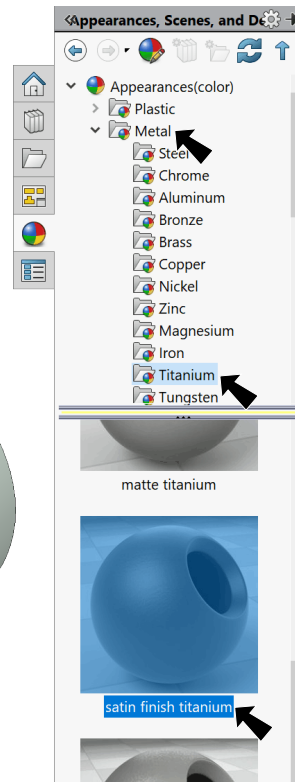

Fig. 10
Step 2. In the Appearances Task pane, expand **Metal**, click **Titanium** and in the lower pane select **satin finish titanium**, **Fig. 10**.